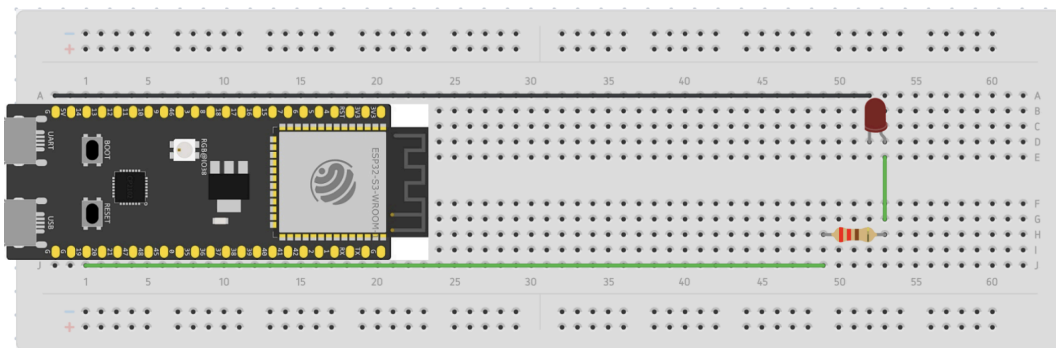

Figure 2: Controlling an external LED
- Build a circuit similar to the one shown in *Figure 2* above.